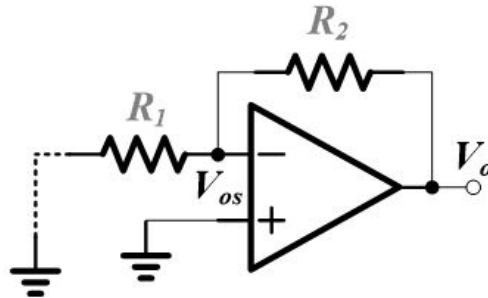

Fig. 6.11 Measurement of the offset voltage
- (1) Complete the wiring and setting as Fig. 6.11, $R_1=1k\Omega$, $R_2=10k\Omega$, the output voltage is _____V.
- (2) Replace R_2 with $100k\Omega$, the output voltage is _____V.
- (3) The approximate offset voltage is _____V.